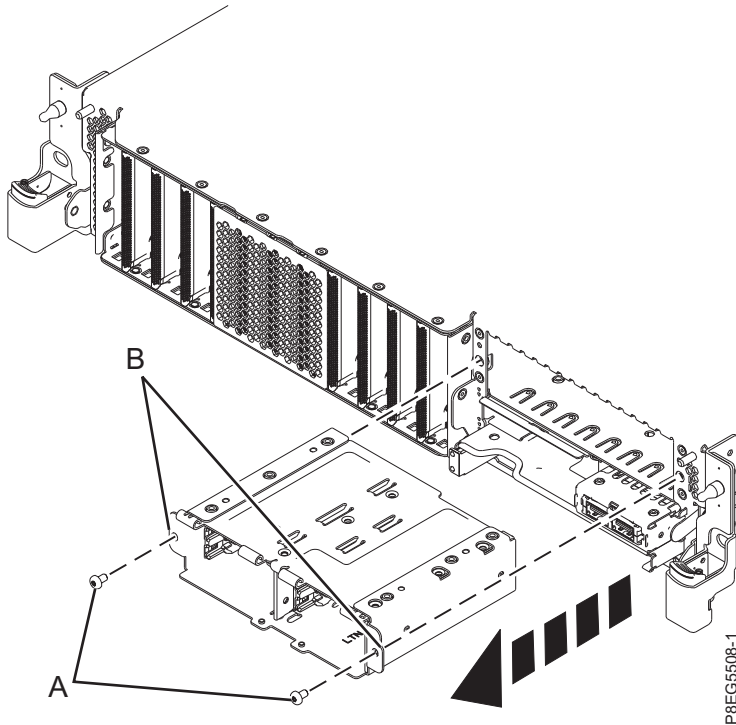

Figure 13. Pull SSD cage out partially
15. Remove screws (A) from the SSD cage. Leave the SSDs fully inserted in the cage. Grasp the mounting flanges (B) and slide the SSD cage out far enough to prevent the pins on the back of the cage from interfering with the removal of the disk drive backplane. See Figure 13 on page 16.